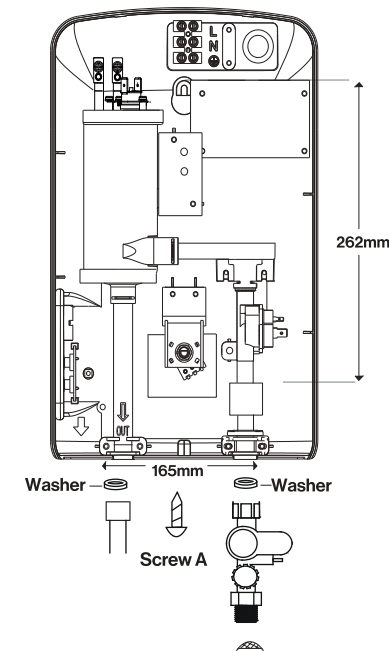

Fig. 1
1. Select a suitable position in the bathroom. (Fig. 1)
2. Pull out the Temperature Control Knob and then remove the screw (A) at the bottom of the unit.